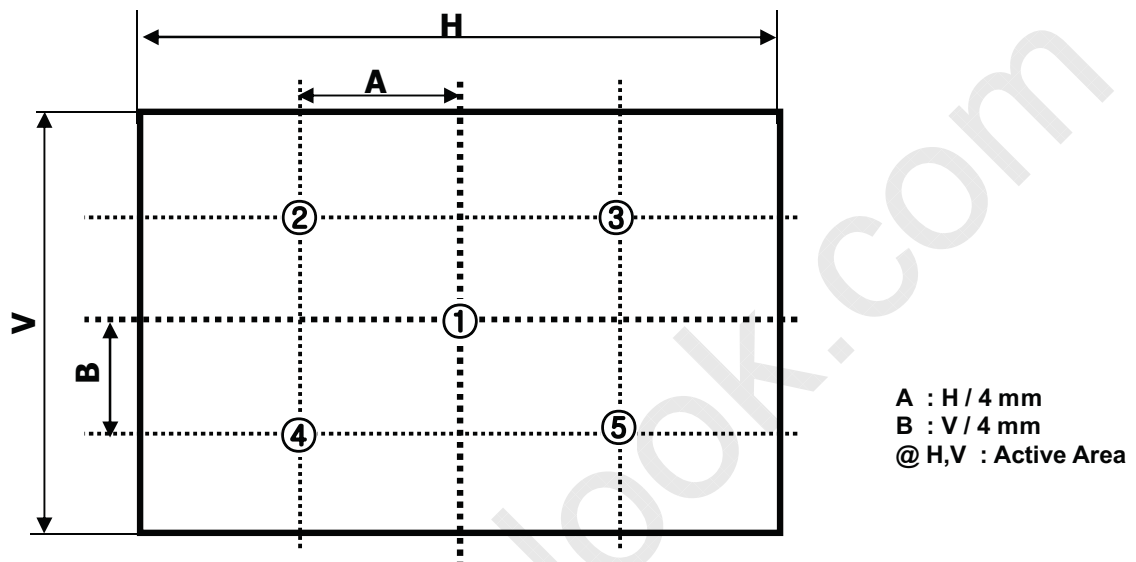

FIG. 2 5 Points for Luminance Measure
2. Surface luminance is determined after the unit has been 'ON' and 1 Hour after lighting the backlight in a dark environment at  $25 \pm 2^\circ\text{C}$ . Surface luminance is the luminance value at center 1-point across the LCD surface 50cm from the surface with all pixels displaying white. For more information see the FIG. 2.
For more information, see the FIG. 2.